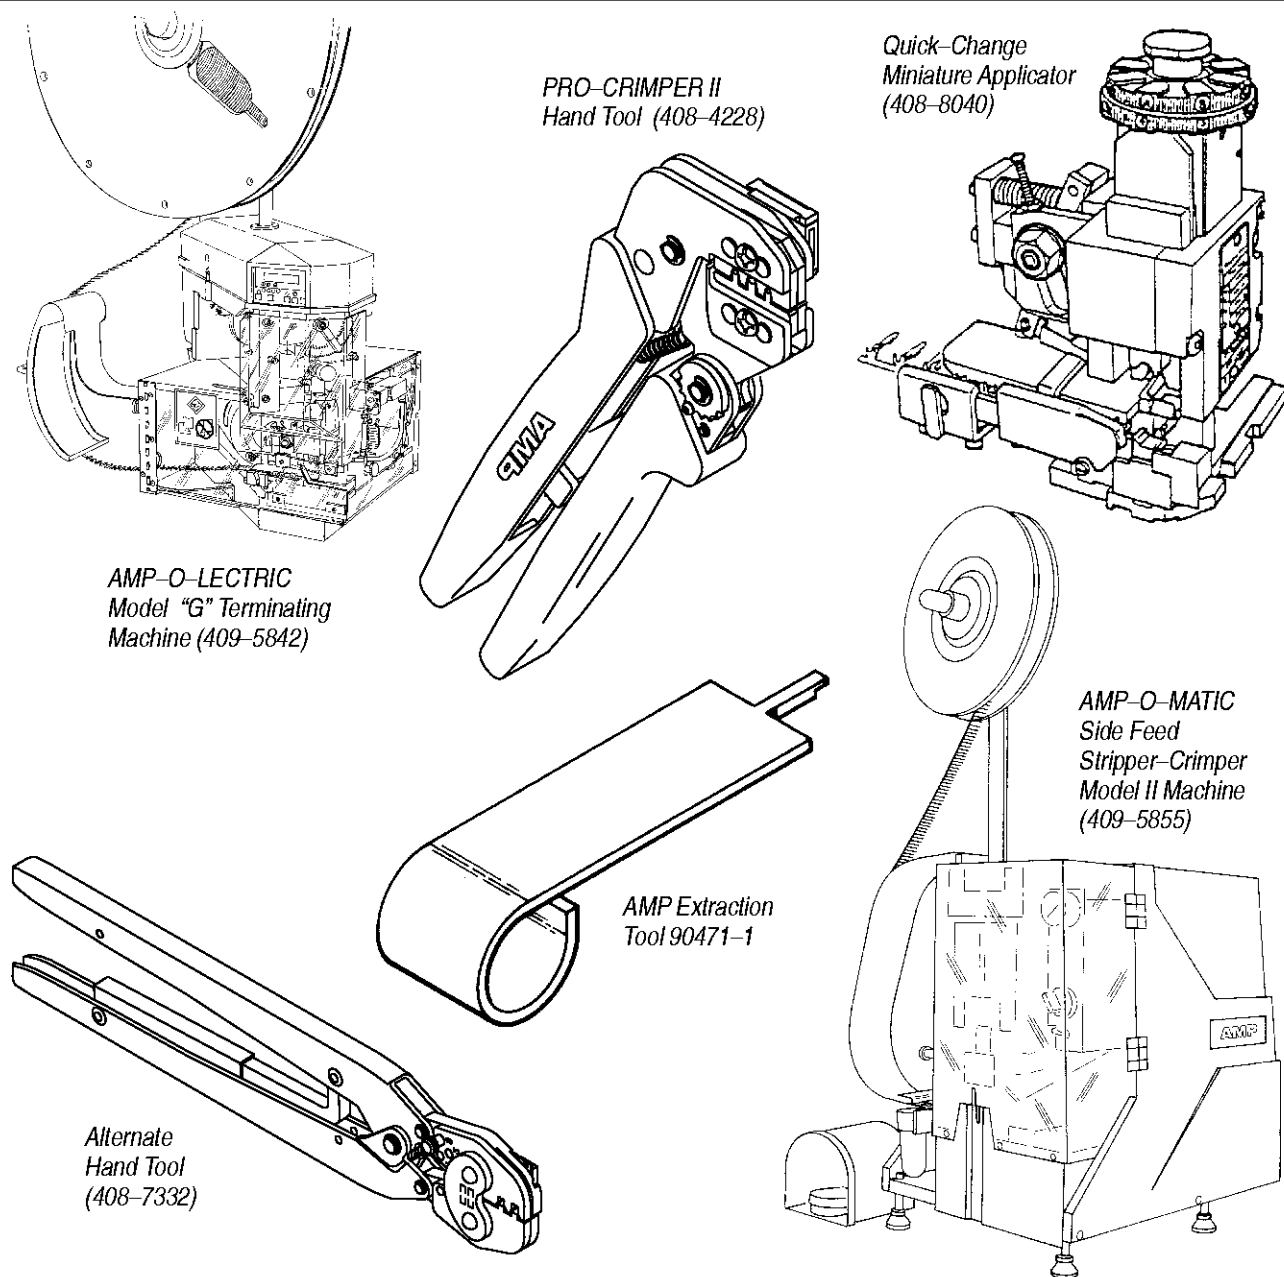

Figure 7
- Revised Section 5 and added additional illustrations to Figure 7.
5. TOOLING (Figure 7)